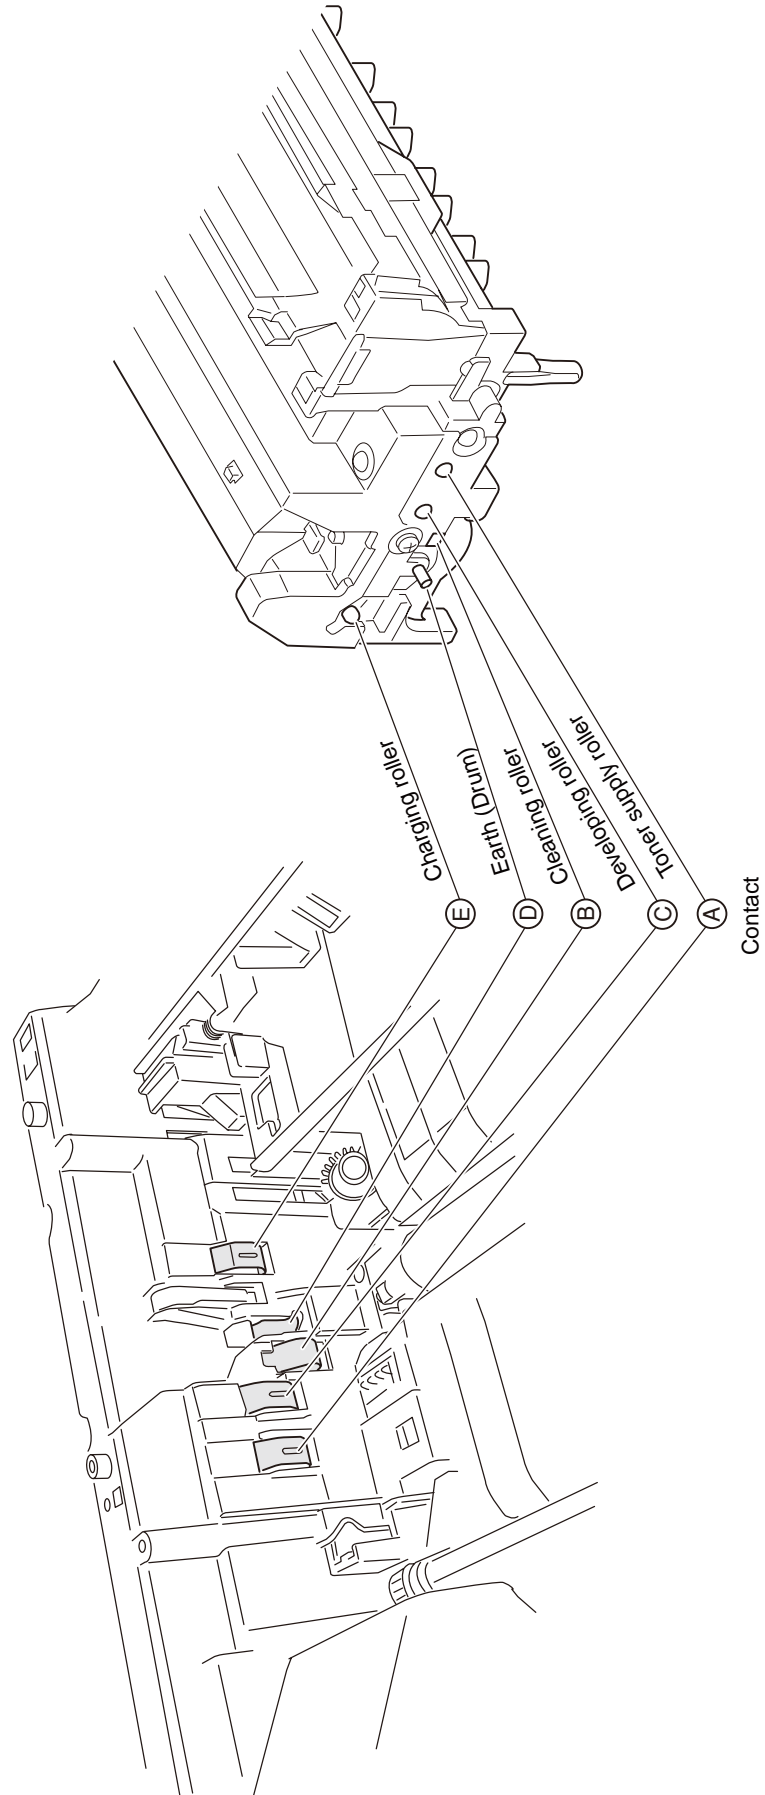

Figure 6-3
- ▼ Yes Are the contact of the developing roller and toner supply roller of the image drum cartridge appropriately connected to the contact assembly? (See Figure 6-3 (A) and (B))